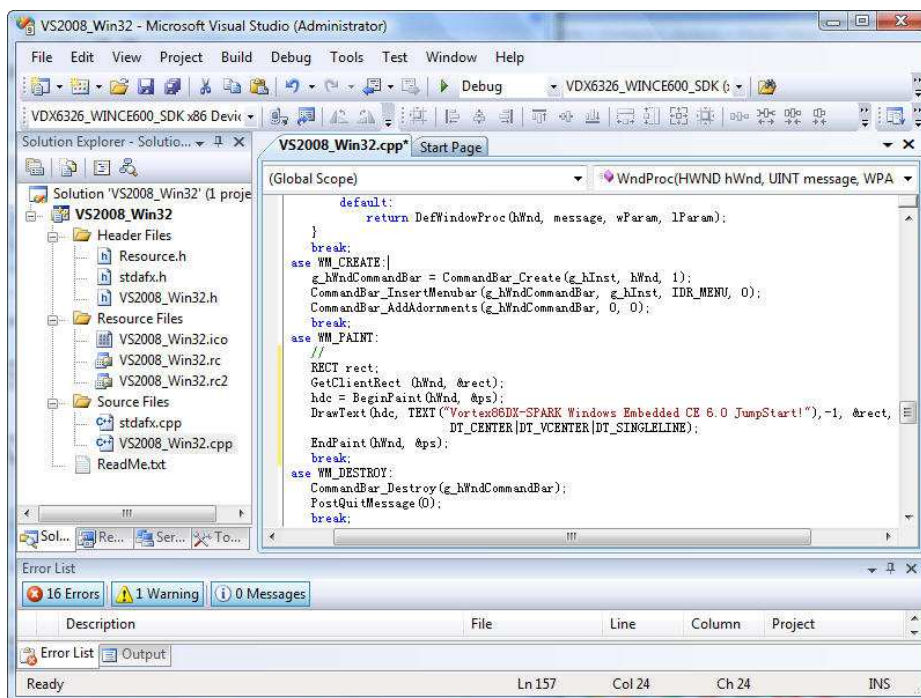

Fig. N07 - VS2008 IDE with VS2008_Win32 project active.
- Replace the codes in the “**case WM_PAINT:**” statement with the following codes, as shown in Figure N07.